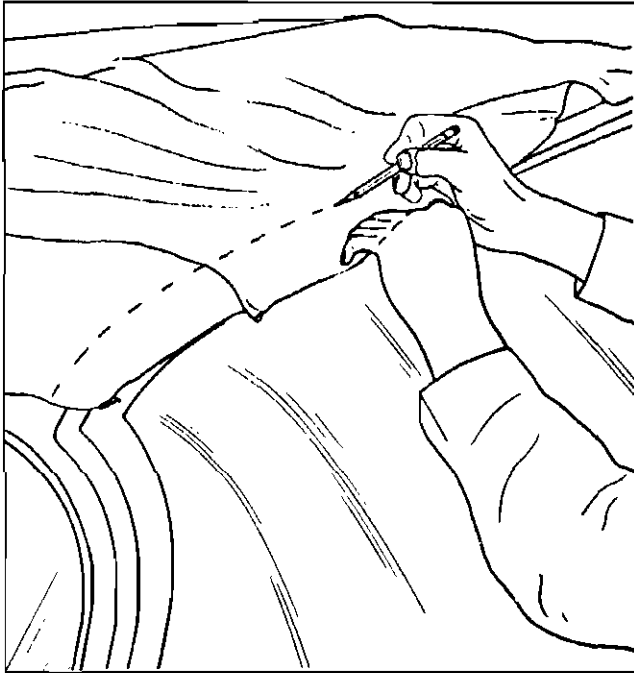

Fig. 7-50 Marking Top Material
46. At front roof rail, pull top trim material forward to desired tension. While maintaining tension on top trim, place a pencil mark on outer surface of trim material along forward edge of front roof rail (Fig. 7-50).